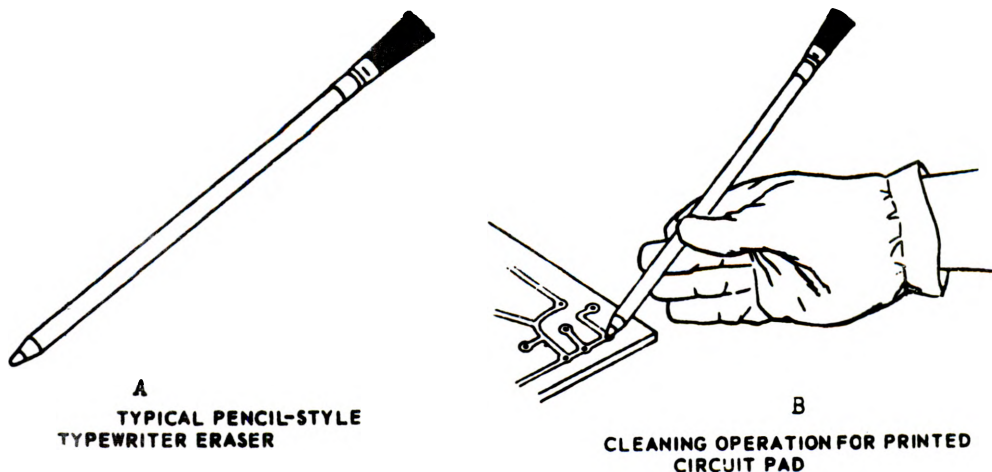

Figure 7-1. Circuit board cleaning.
b. Copper clad boards: unplated boards should be cleaned with a white typewriter eraser as shown in figure 7-1. Clean
c. Gold-plated boards are the most difficult to prepare since the gold plating must be removed in all areas to be soldered. Do this with the typewriter erasure as shown in figure 7-1. The same appearance as the unplated copper clad board is necessary. Again, follow this procedure by using the acid brush with alcohol and wipe dry with a Kimwipe.